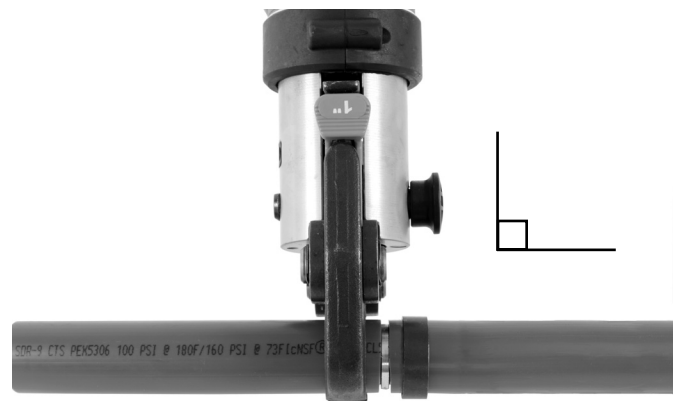

Figure 2 – Jaw Aligned with Tube and Fitting
4. Place open jaw around the crimp ring. Allow the jaw to close. (Figure 2).